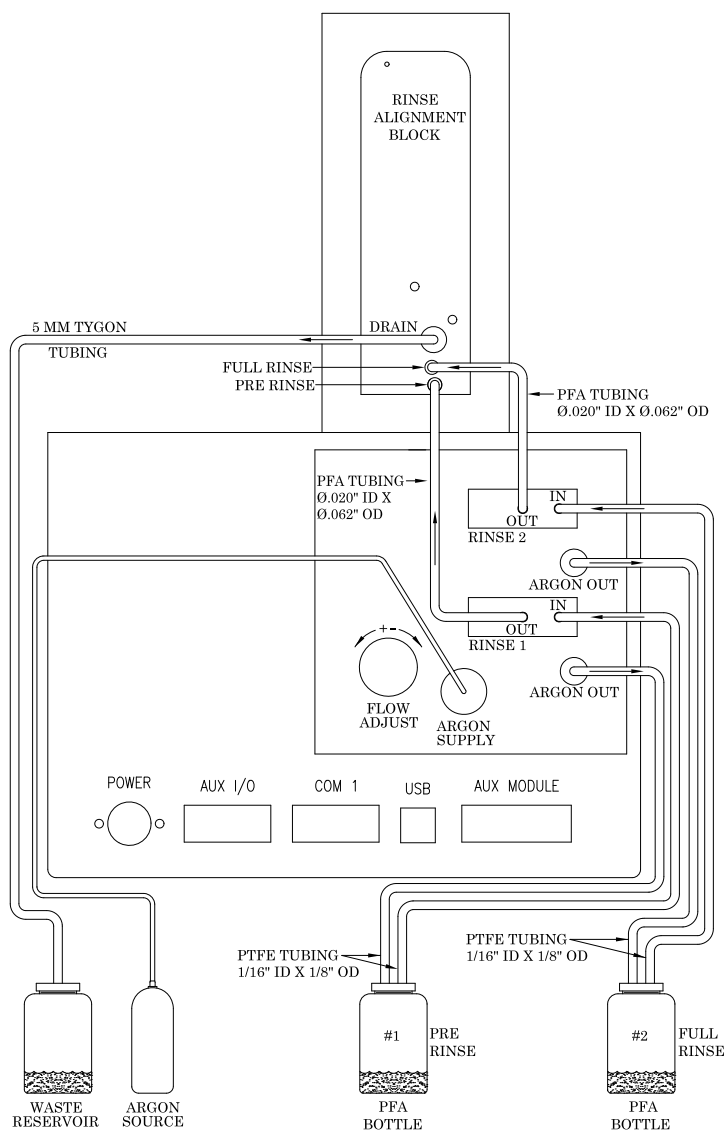

Figure 3-5. Gas Displacement Pump Tubing Connections.
To connect the rinse station tubing to the gas displacement pump using a gravity drain, complete the following steps referencing Figures 3-5 and 3-6:
- a. **Take the free end of the PFA tubing protruding through the alignment block from the lower rinse station input and insert it into the fitting at “RINSE 1 OUT” on the gas displacement pump panel as shown in Figures 3-5 and 3-6.**
“RINSE 2 OUT” on the gas displacement pump panel as shown in Figures 3-5 and 3-6.